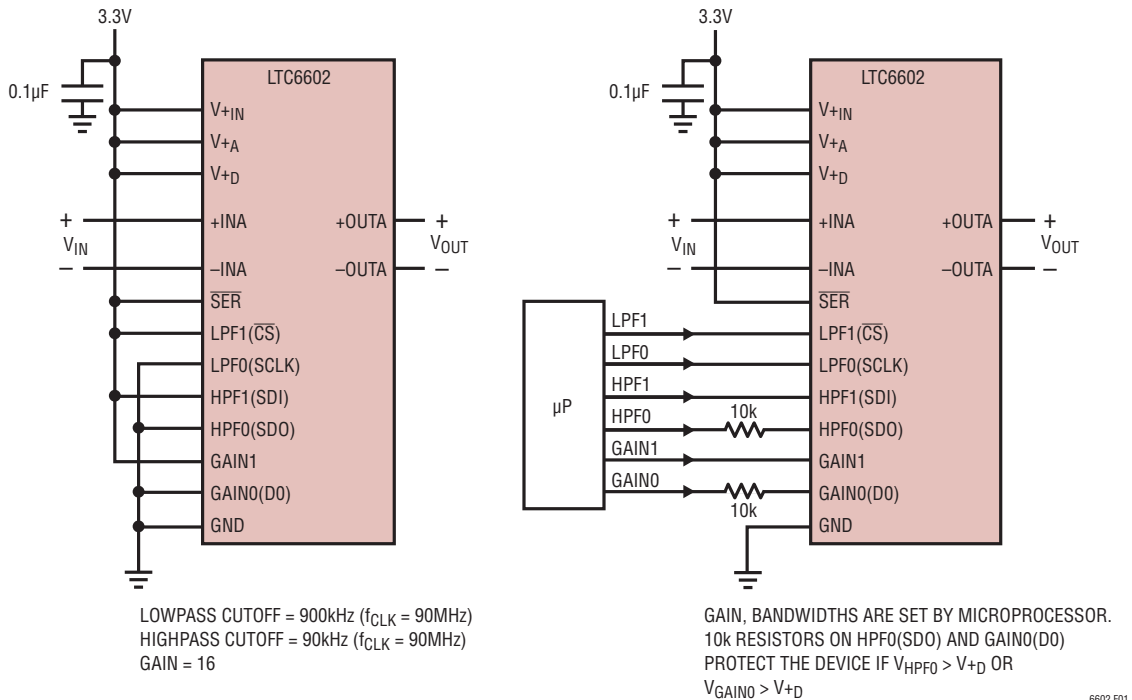
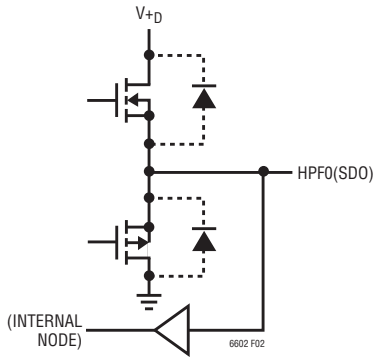

Figure 1. Filter in Pin Programmable Control Mode
Figure 2. Bidirectional Design of HPF0(SDO) and GAIN0(DO) Pins
As shown in Figure 1, connecting $\overline{\text{SER}}$ to V_{+D} allows the filter to be directly controlled through the pin programmable control lines GAIN1, GAIN0, HPF1, HPF0, LPF1 and LPF0. The HPF0(SDO) and GAIN0(DO) pins are bidirectional (inputs in pin programmable control mode, outputs in serial mode). In pin programmable control mode, the voltages at HPF0(SDO) and GAIN0(DO) cannot exceed V_{+D}; otherwise, large currents can be injected to V_{+D} through the internal diodes (see Figure 2). Connecting a 10k resistor at the HPF0(SDO) and GAIN0(DO) pins (see Figure 1) is recommended for current limiting, to less than 10mA. $\overline{\text{SER}}$ has an internal pull-up to V_{+D}. None of the logic inputs have an internal pull-up or pull-down.